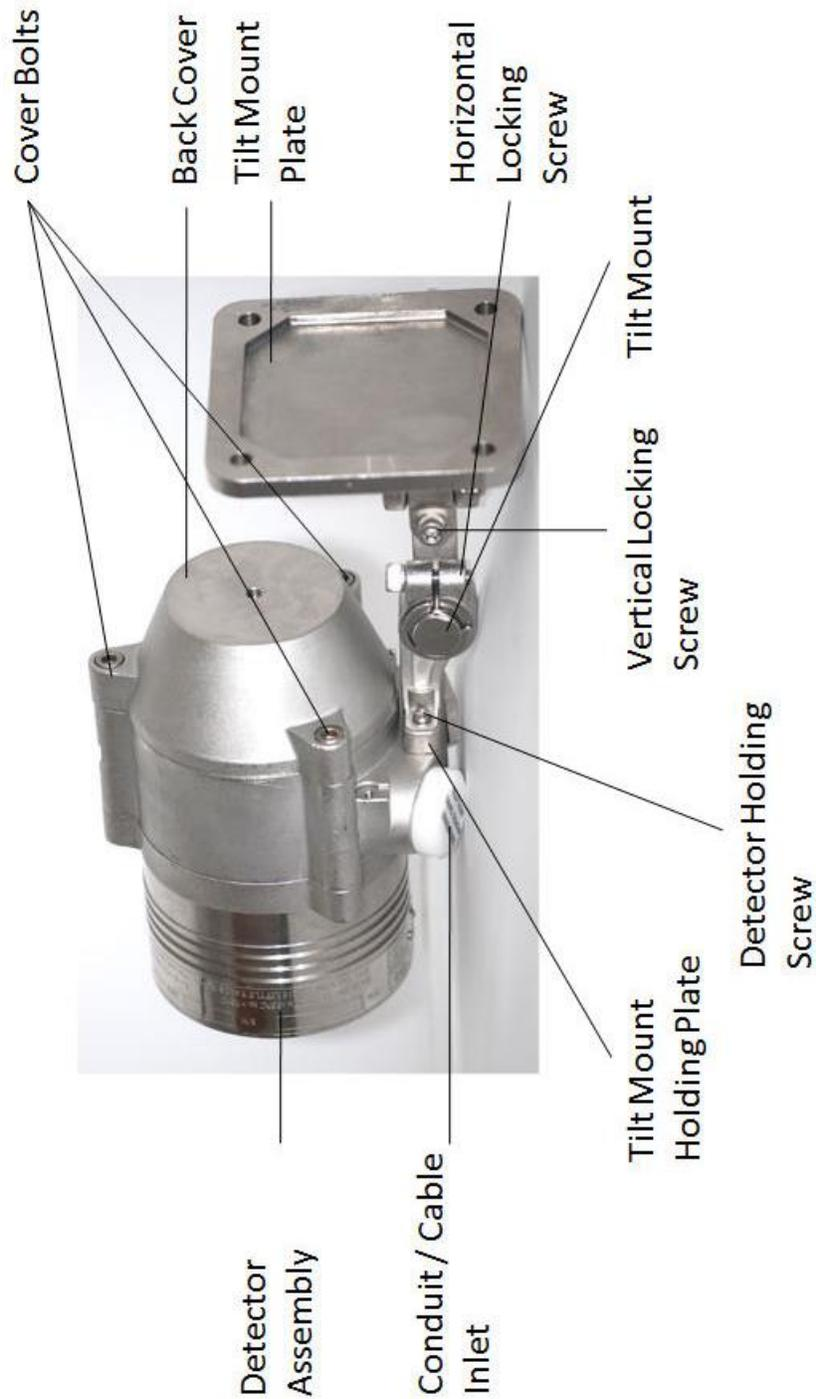

Figure 3: Detector with Tilt Mount
The Tilt Mount enables the detector to be rotated up to 60° in all directions. Figure 3 shows the Detector mounted on the Tilt Mount.
- 9 Place and secure the detector’s back cover by screwing the three (3) socket-head-screws in the Cover Bolts (Figure 3).